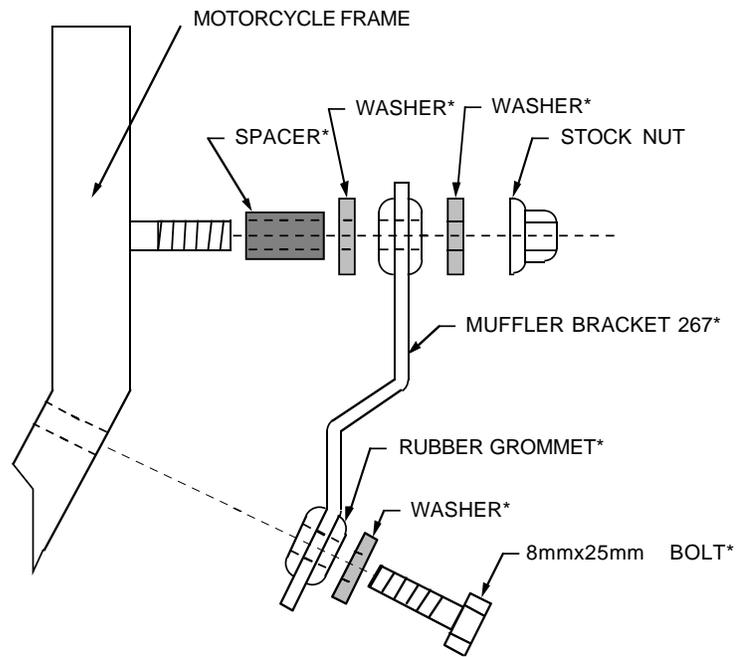

FIGURE 1
2. Mount the new muffler bracket to the stock mounting points on the frame, using the supplied hardware. Refer to figure 1.